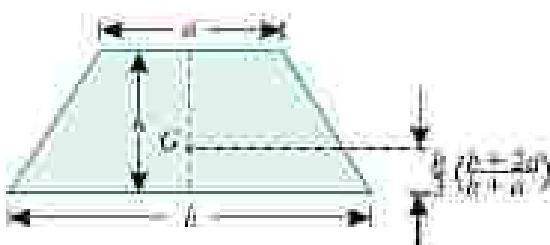

Fig. 6.3. Trapezium
4. The centroid of a trapezium with parallel sides a and b is at a distance of $\frac{a}{3} \times \left(\frac{2a+3b}{a+b}\right)$ measured from the side b as shown in Fig. 6.3.